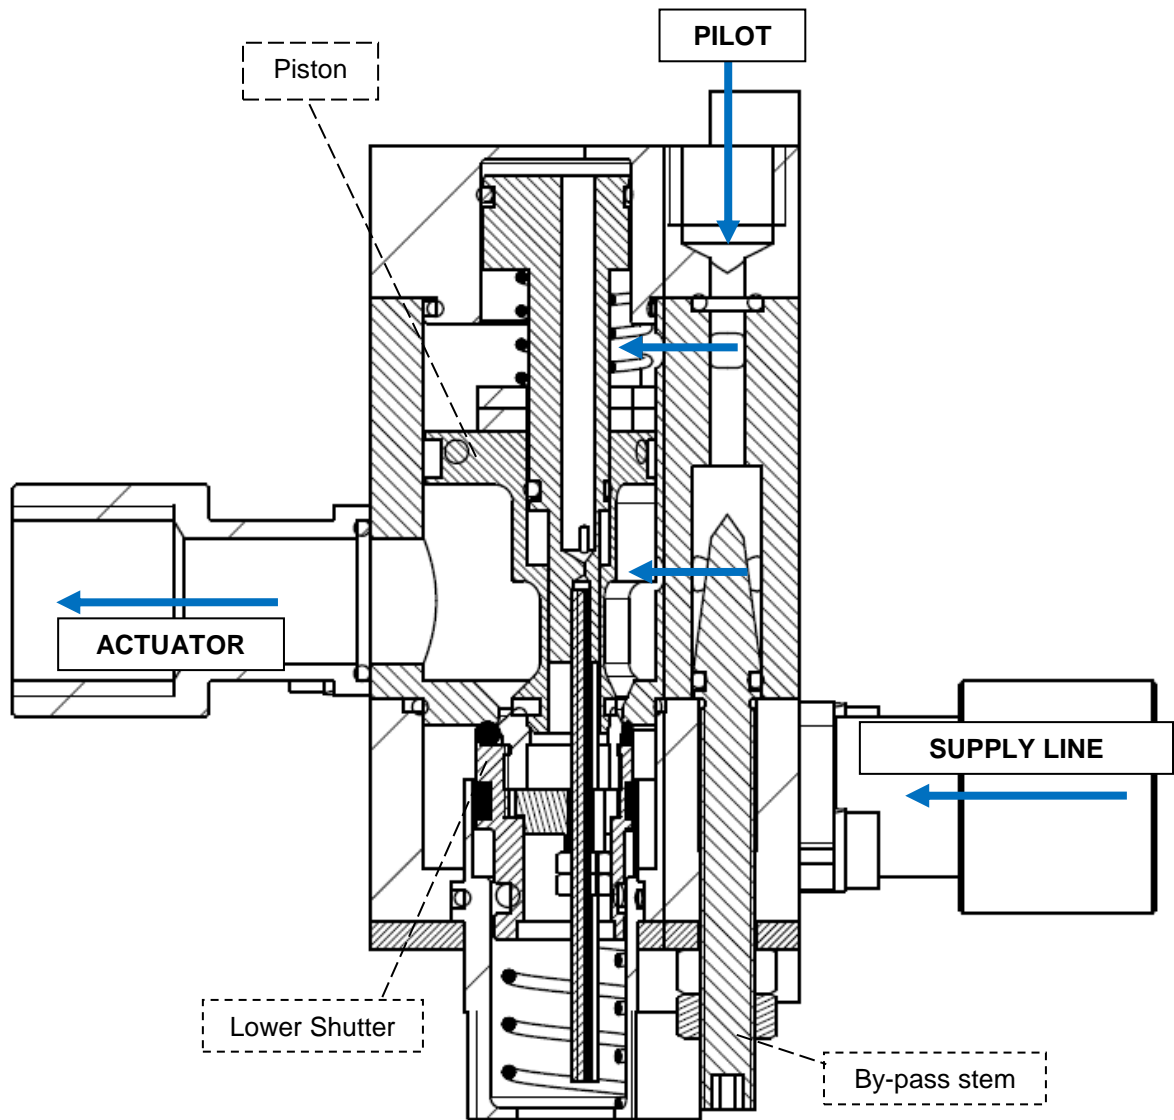

Figure 6 – Charge setup: stand-by model
- a) if the flow rate is lower than a threshold value depending on the by-pass stem adjustment, the by-pass stem throttling can't generate a pressure drop between the two side of the piston and the working fluid goes to the actuator chamber. This case is called "stand-by mode" (figure 6);